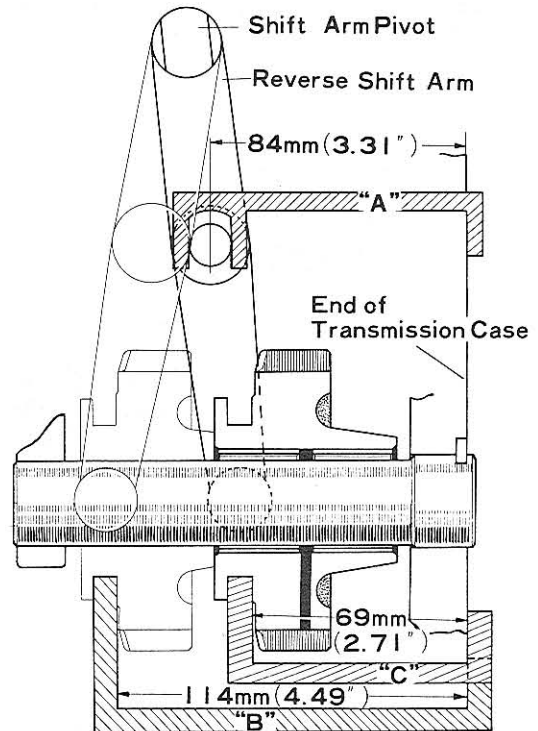

Fig. 2-94 Reverse Shift Arm Adjustment G2387
(3) Install the gauge "B" into the shift groove of the reverse idler gear, and adjust the gear position (reversely shifted position) by turning the shift arm pivot to obtain the distance of 114 mm or 4.49" between the outer rear end of the transmission case to the gear front end as figure 2-94. Tighten the shift arm pivot lock nut securely.
(4) Next, install the gauge "A" onto the reverse shift arm pin, and the gauge "C" into the shift groove of the gear, and check the